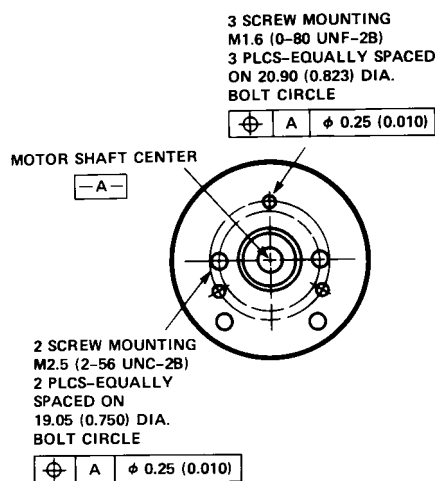
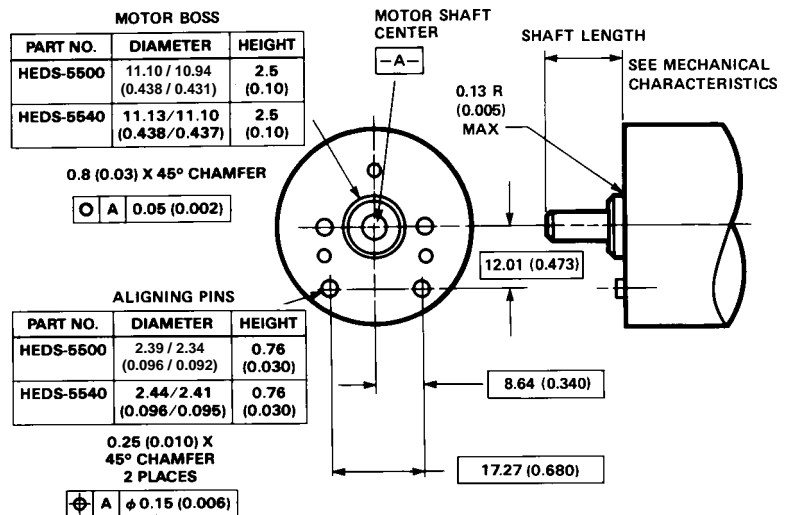

Figure 2. Mounting Holes.
Figure 3. Optional Mounting Aids.
3. The HEDS-5540 and 5640 must be aligned using the aligning pins as specified in Figure 3, or using the alignment tool as shown in "Encoder Mounting and Assembly". See also "Mounting Considerations."
The HEDS-5540 and 5640 three channel encoders and the HEDM Series high resolution encoders must be aligned using the aligning pins as specified in Figure 3, or using the HEDS-8910 Alignment Tool as shown in Encoder Mounting and Assembly.
mounting option as shown in Figure 2. The optional aligning pins shown in Figure 3 can be used with either mounting option.